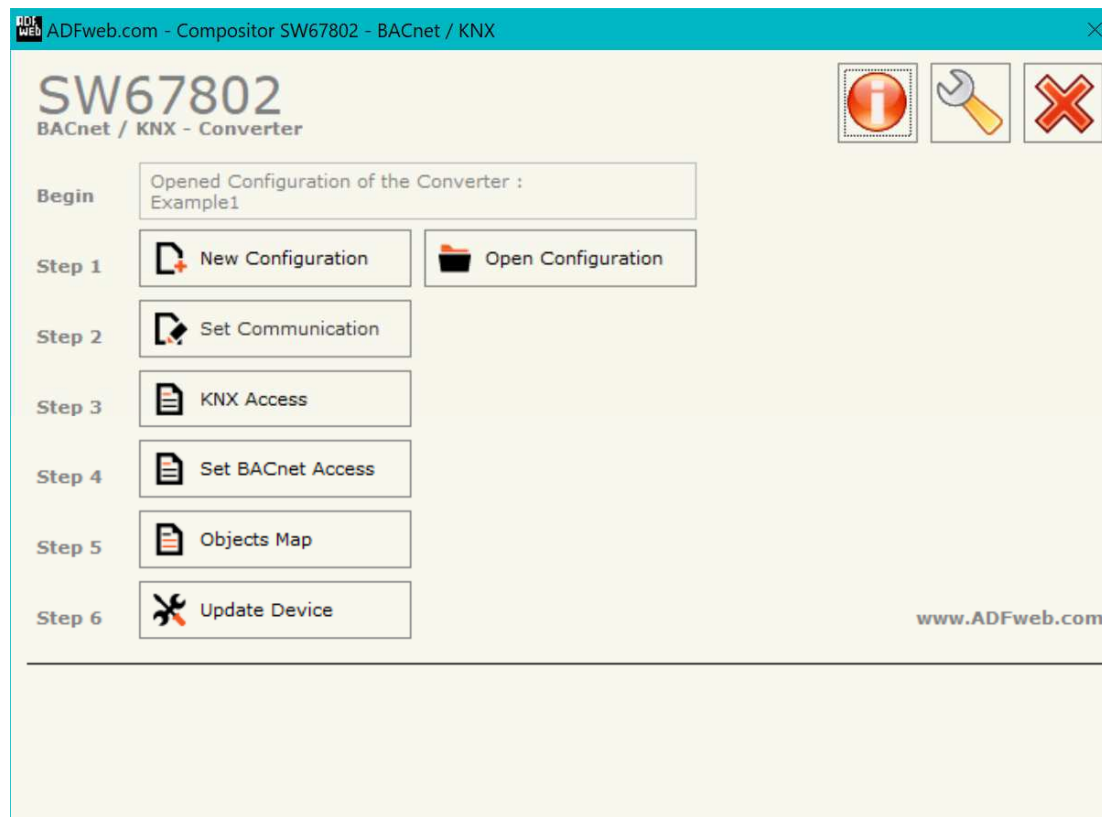
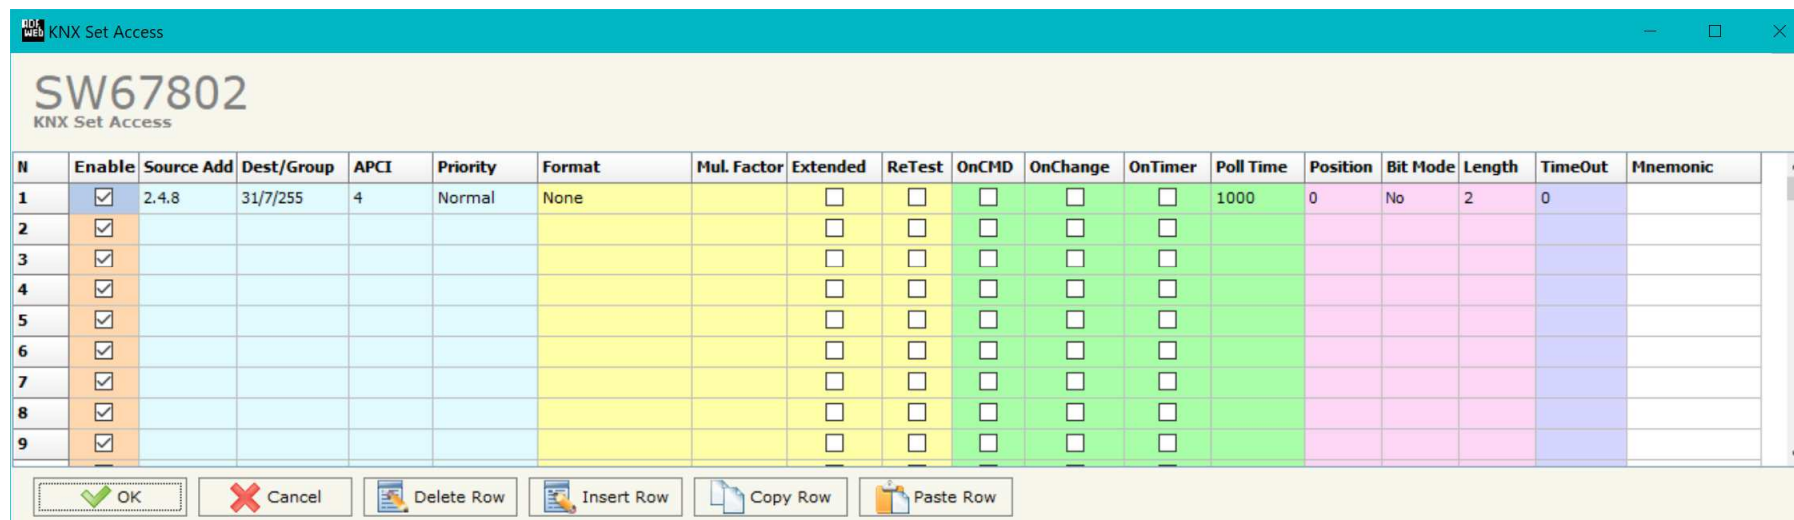
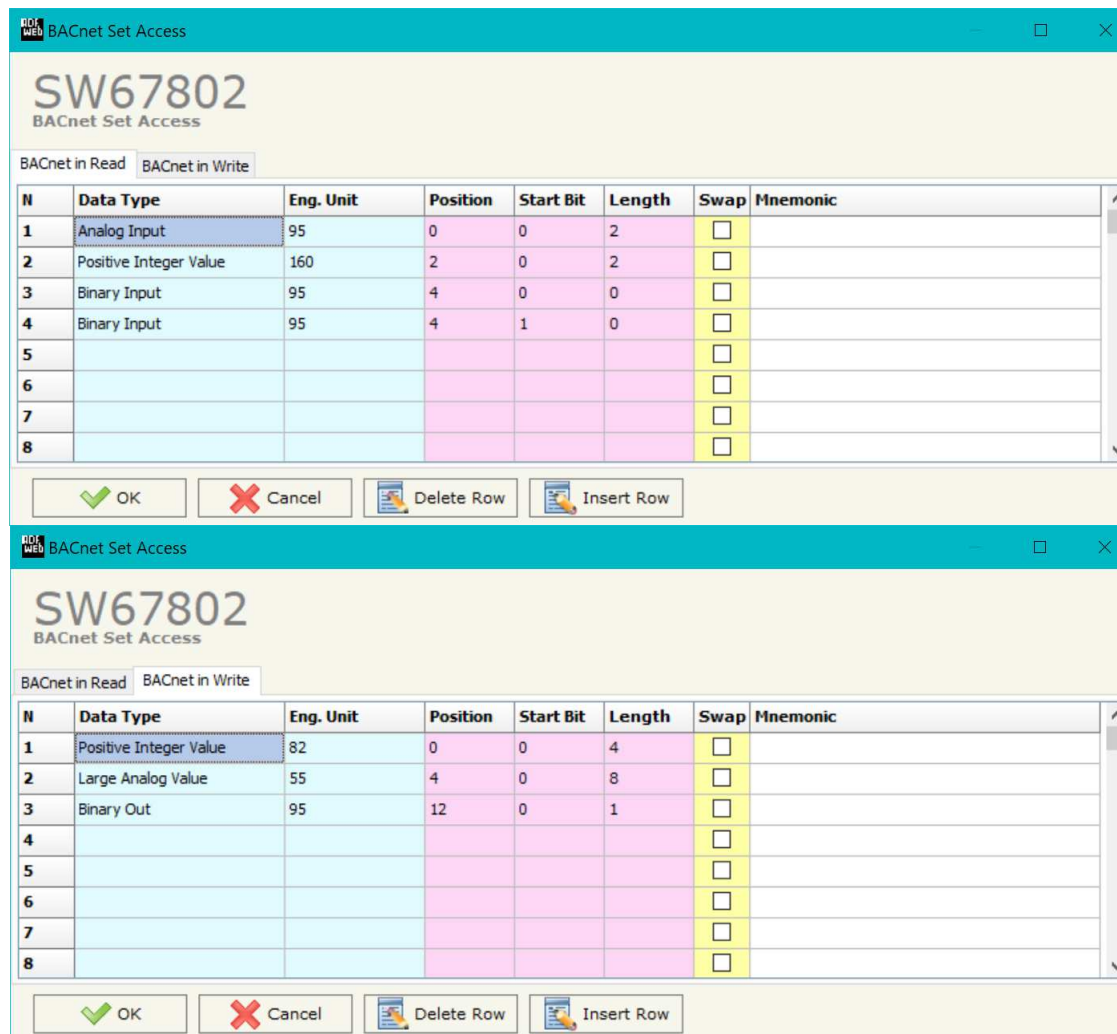

Figure 2: Main window for SW67802
Figure 4: "KNX Set Access" window
Figure 5a: “BACnet Set Access” window
When launching the SW67802, the window below appears (Fig. 2).
By Pressing the **"Set Communication"** button from the main window for SW67802 (Fig. 2) the window "Set Communication" appears (Fig. 3).
By pressing the **KNX Access** button from the main window for SW67802 (Fig. 2) the "KNX Access" window appears (Fig. 4).
By Pressing the “**Set BACnet Access**” button from the main window for SW67802 (Fig. 2) the window “BACnet Set Access” appears (Fig. 5a).
- In the field “**Eng. Unit**”, with double click the window “*Select the BACnet Engineering Unit*” appears (Fig. 5a);